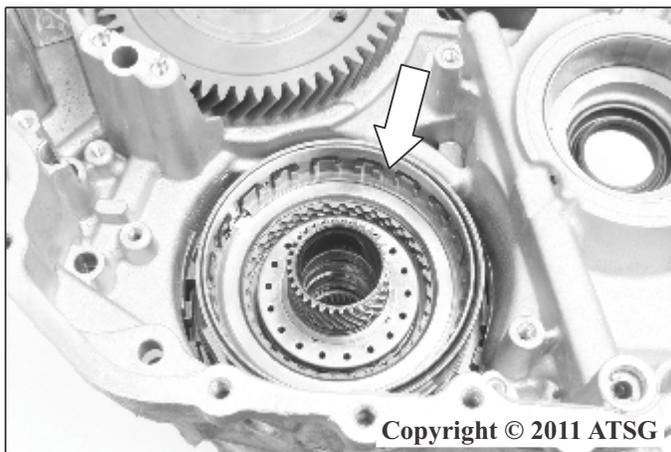

Figure 225
39. Install the 4-5 (C3) clutch drum assembly with a twisting motion as shown in Figure 225.